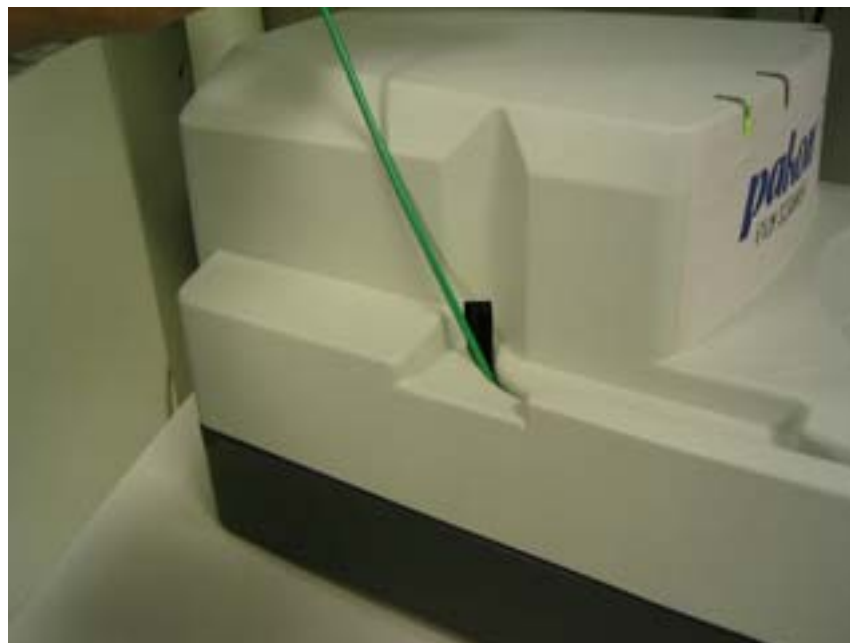

Fig. 10
2. On the film exit side, blow the air away from the film exit. (Fig. 10)